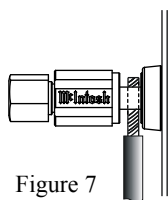

Figure 7
8. Connect the Loudspeaker hookup cables to the MC312 COM (Negative) Output Terminal and Positive Output Terminal indentified as 2Ω (ohms), 4Ω (ohms) or 8Ω (ohms) connection to match the impedance of the Loudspeaker, being careful to observe the correct polarities. Insert the spade lug connector or prepared section of the cable end into the terminal side access hole, and tighten the terminal cap until the cable is firmly clamped into the terminals so the lugs or wire cannot slip out. Refer to figures 7 and 8.